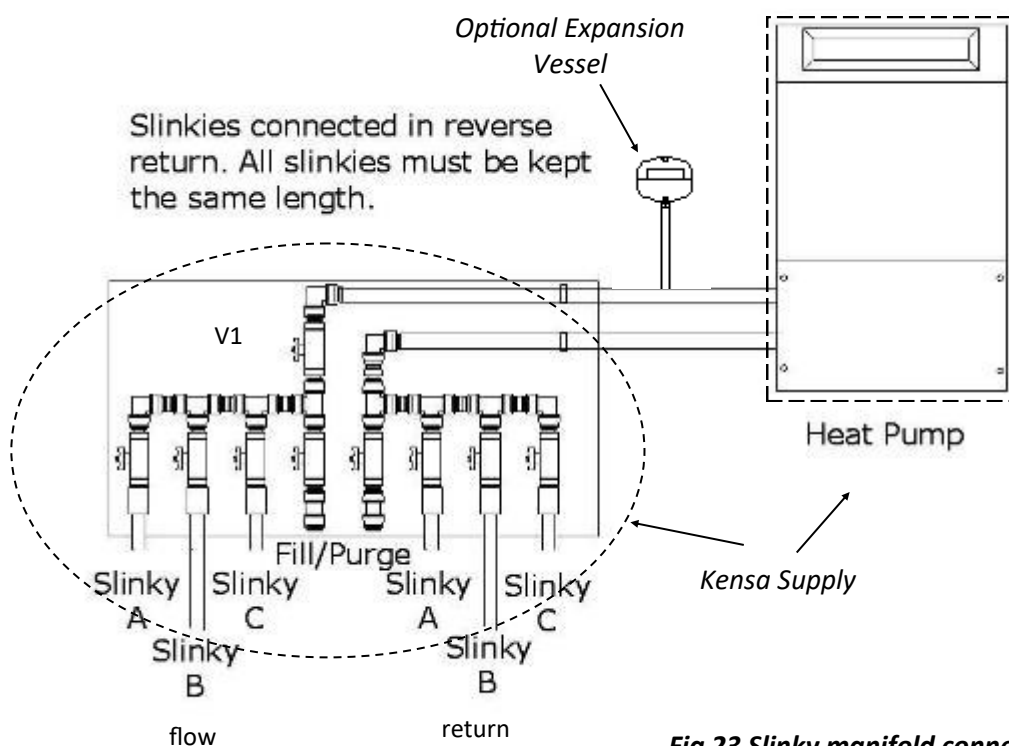

Fig 23 Slinky manifold connections
- iii. Place a filter such as a kitchen sieve over the pipe returning water to the dustbin so any debris will be captured. Ensure all valves are closed including the heat pump valve V1. Open the valves on the manifold in the following order (refer to above diagram Fig 23) :-